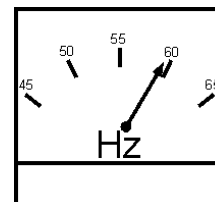

Figure 40. Frequency Meter (Hz)
9. The generator's frequency meter (Figure 40) displays the 60 cycle output frequency in **HERTZ**.